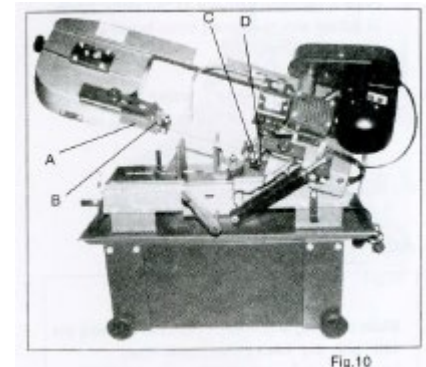

Fig.10
2. Remove the red blade guard (A – fig. 10) by loosening the screws (B).
3. Remove the brush (C) by loosening the screws (D).